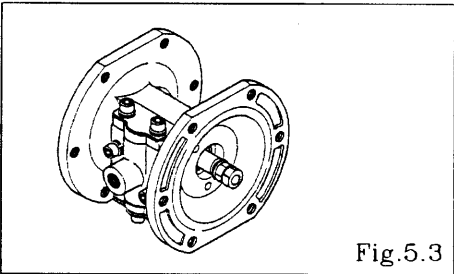

Fig.5.3
- Remove the center disk and diaphragm from the opposite side using the double nut. [Fig.5.3]